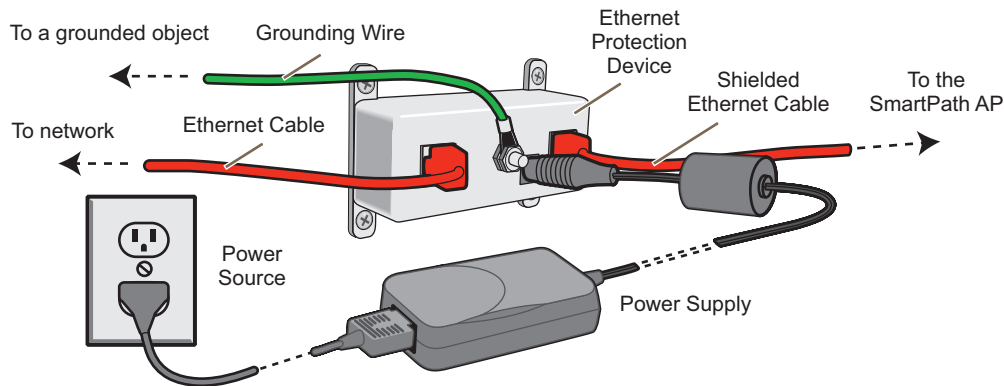

Figure 13. Connecting the indoor-mounted Ethernet protection device.
2. Make the following connections, as shown in Figure 13: